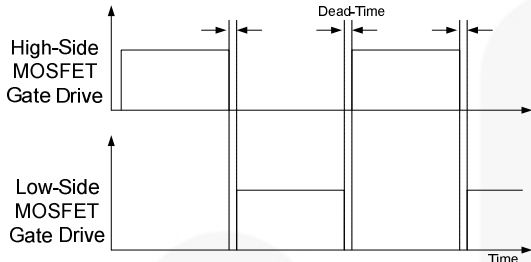

Figure 15. MOSFETs Gate Drive Signal
1. Basic Operation. FSFR-XS series is designed to drive high-side and low-side MOSFETs complementarily with 50% duty cycle. A fixed dead time of 350ns is introduced between consecutive transitions, as shown in Figure 15.